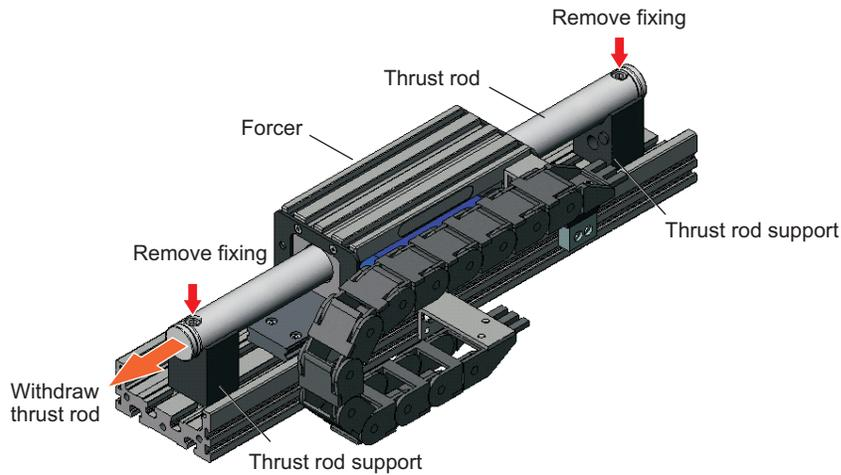

Figure 3.15
- Remove the bellows as previously described. The module will appear as it is shown in Figure 3.15.
- Remove the two bolts that secure the thrust rod to the two thrust rod supports, see Figure 3.15.